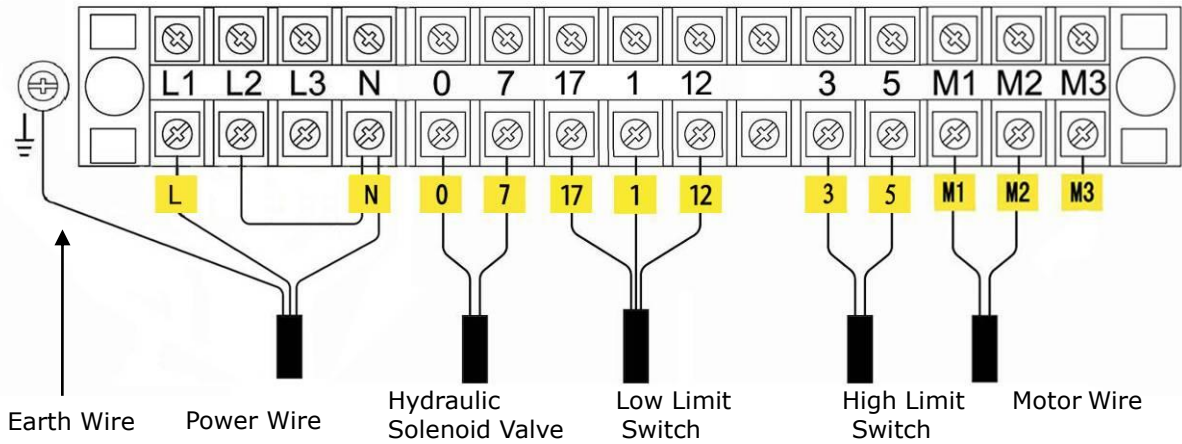

Fig. 30
3.1 Connect the power wire and limit switch wire according to the Wiring diagram (See Fig. 30)